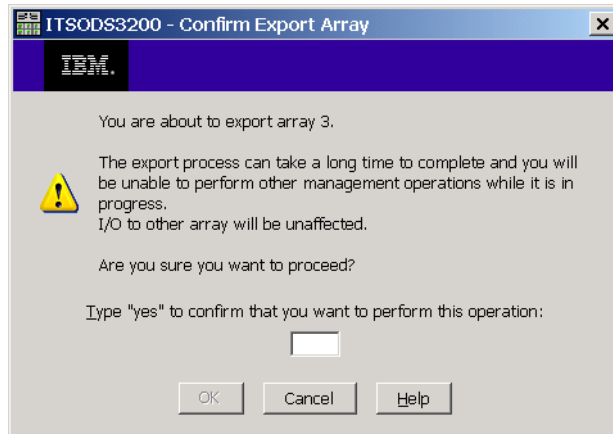

Figure 14-54 Export Array - Confirmation
6. Confirm the Export Array procedure once again by typing yes in the confirmation window (Figure 14-54 on page 343) and clicking **OK**.